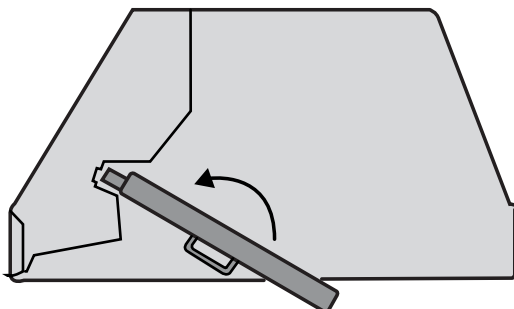

Figure 12
- Angle and insert one end of the filter into the upper channel of the range hood (figure 12).